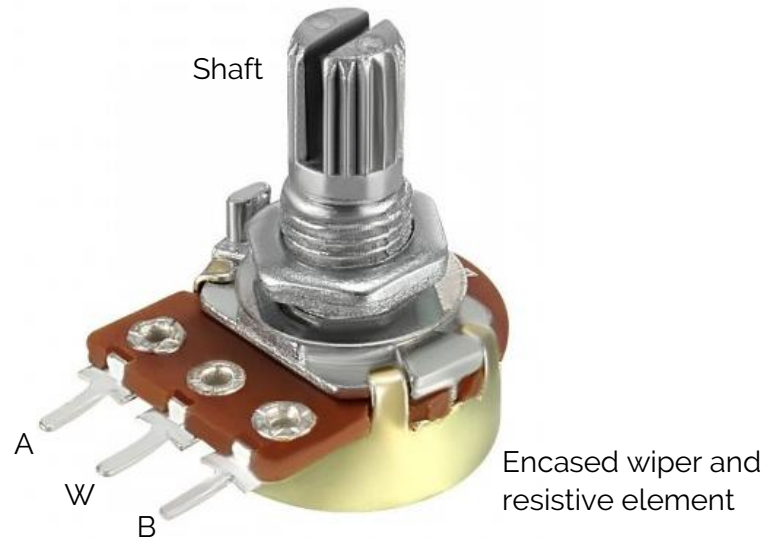

Figure 1: Schematic diagram of a potentiometer
A rotary potentiometer, or pot, is a manually controlled variable resistor. See the example shown in Figure 1. It typically consists of an exposed shaft, three terminals (A, W, and B), an encased internal resistive element shaped in a circular pattern, and a sliding contact known as a wiper. By rotating the shaft, the internal wiper makes contact with the resistive element at different positions, causing a change in resistance when measured between the center terminal (W) and either of the side terminals (A or B). The total resistance of the potentiometer can be measured by clamping a multimeter to terminals A and B.